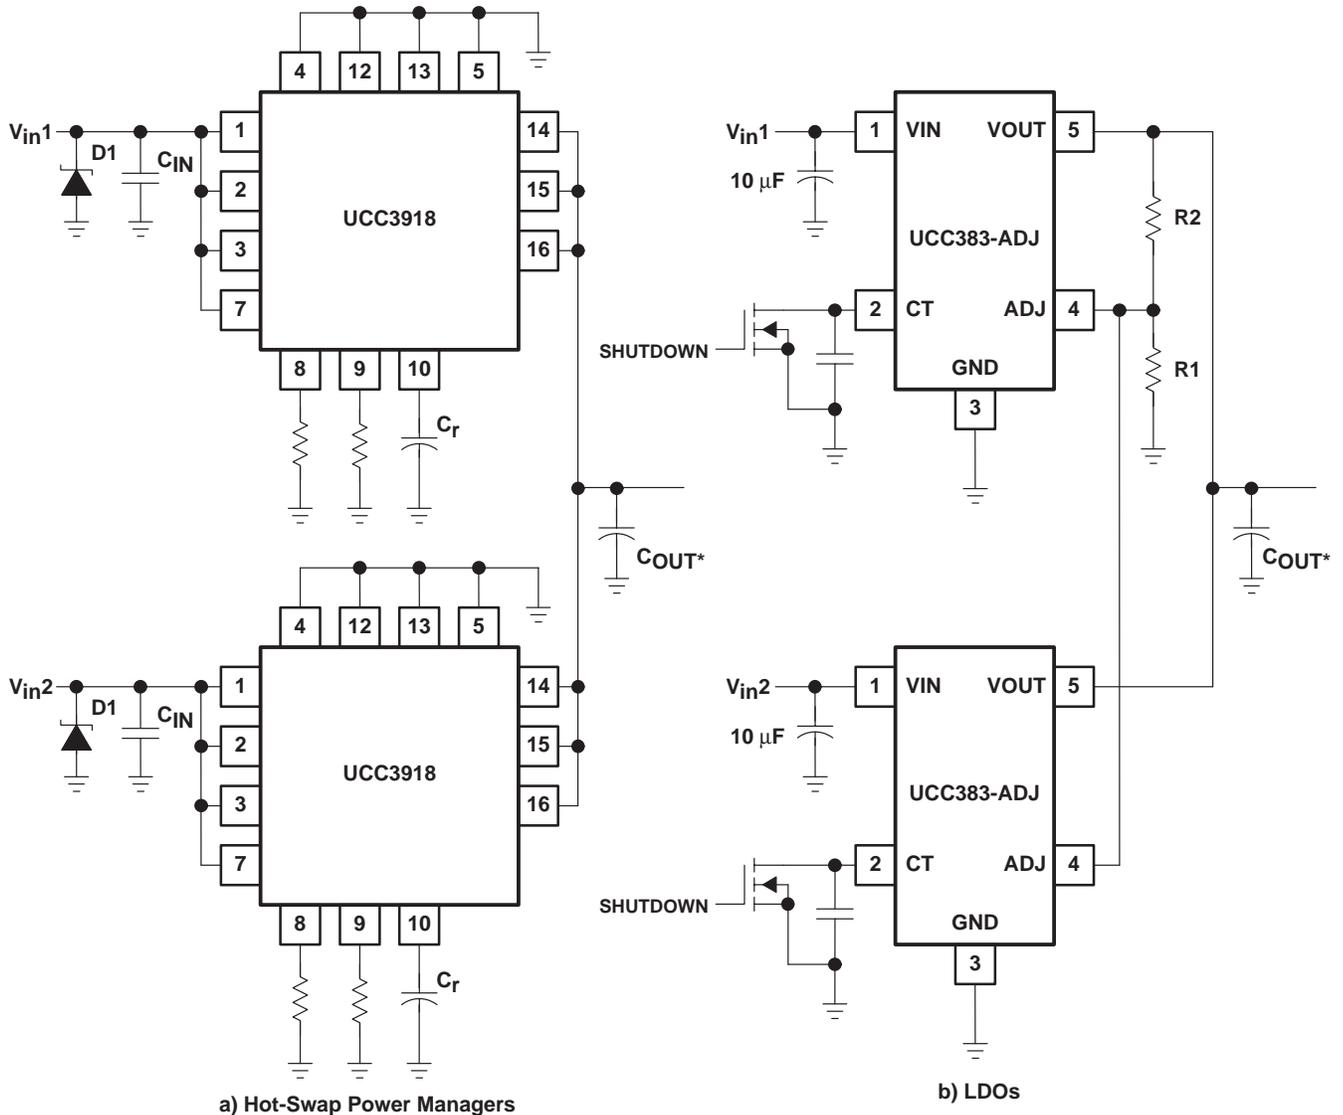

Figure 1. Alternatives With Hot-Swap Power Managers and LDOs
Proposed protection solutions have full thermal and short-circuit protection. No additional circuits are necessary for output short-circuit protection and load inrush currents. Circuit details for hot-swap power managers and LDOs are shown in Figure 1.
In Figure 1, V_{in1} and V_{in2} are the independent sources. The values of different external components such as resistors and capacitors can be calculated from the UCC3918 or UCC383 data sheets. Some external components, such as for the shutdown option (Figure 1b), are optional, and others, such as output capacitors, do not have to sit next to the components of the LDO or power management circuits themselves, but instead can be placed elsewhere in the application.
- Inputs of individual power managers are connected to independent voltage sources but all the outputs are connected together. This is the situation shown in Figure 1 a). See also section 2.4 on load sharing with redundant supplies.
Parallel operation of LDOs where both inputs and outputs are connected together is not advisable. In the example in Figure 1 b), either of the two LDOs must be able to carry the full-load current.
The objective of the examples in Figure 1 is not to achieve 100% equal load sharing but to create a redundant supply.